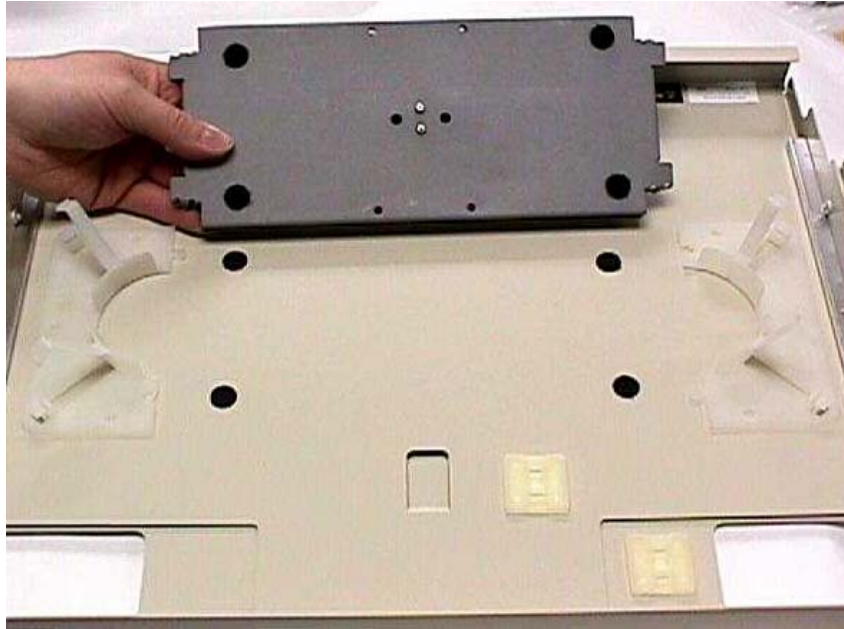

Figure 5.4
- 5.4.1 Apply adhesive fiber ring as shown in Figure 5.4
- 5.4.2 Apply adhesive tie wrap blocks as shown in Figure 5.4
- 5.4.3 Apply adhesive velcro dots to bottom of the splice tray and drawer as shown in Figure 5.4